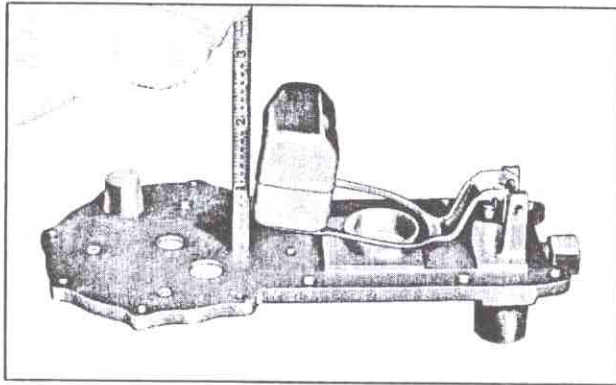

Fig. 144—Measuring Float Level
a. **Float level.** With the fuel meter cover inverted measure the distance between the cover and the bottom of the float (fig. 144). If float level is correct this dimension will be  $2 \frac{9}{32}$ ". Bend float arm as required to adjust.